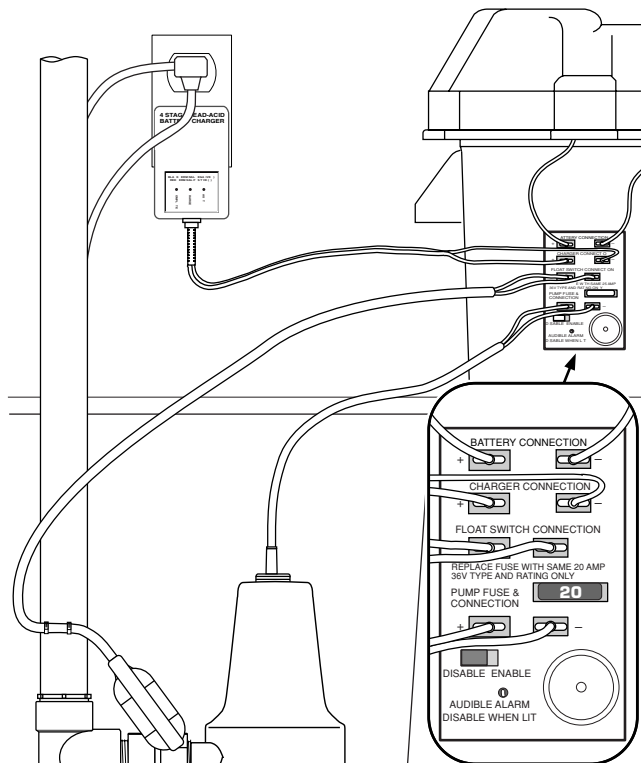

Figure 9 – Wiring Connections DB10018T-01
1. Apply two pieces of two-sided tape (provided, Key No. 9) to the back of the junction box. Press the junction box onto the battery box as illustrated in Figure 9 and on Page 15 (Exploded View).
2. Connect the charger as shown in Table I and Figure 9.